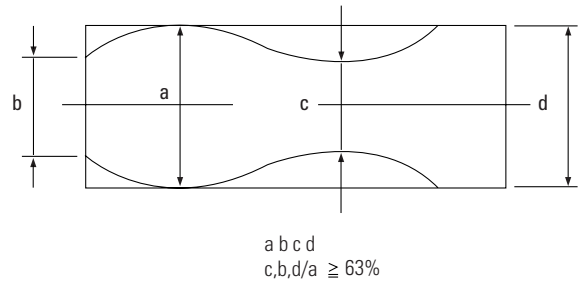

Fig. 4-9 Envelope Waveform Adjustment
- 3) Make sure the video envelope waveform (at its minimum) meets the specification shown in Fig. 4-9.